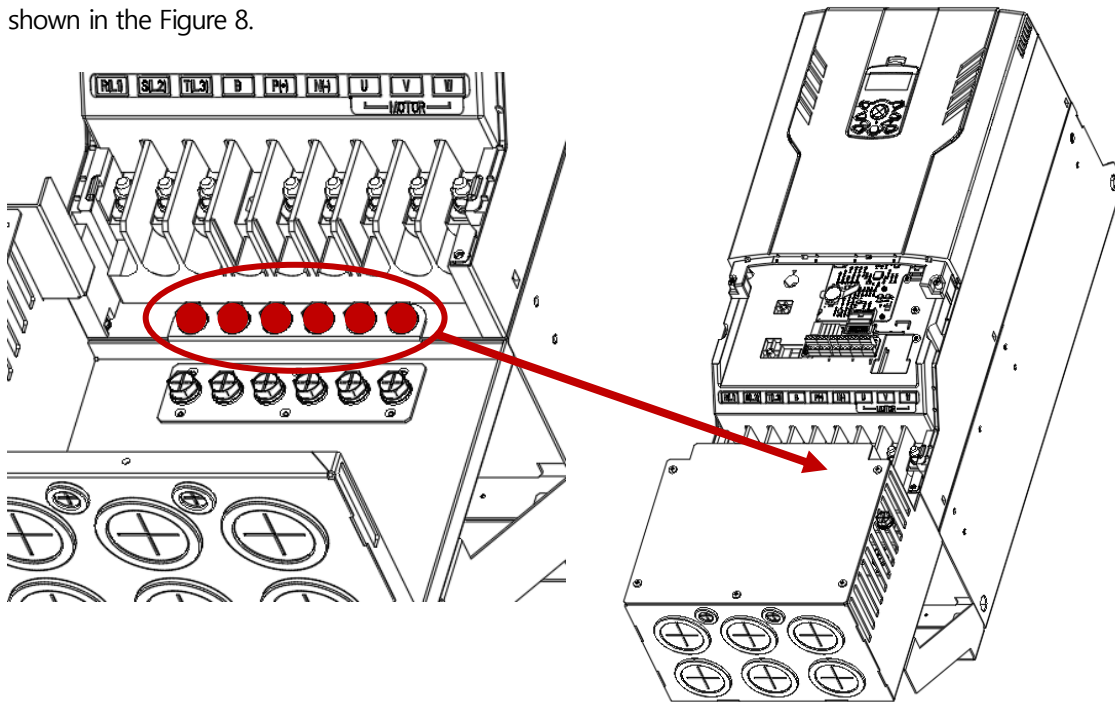

Figure 8. Install
- ② Fasten the Conduit Option to fit on the side of ground terminals of the product using the prescribed bolt as shown in the Figure 8.